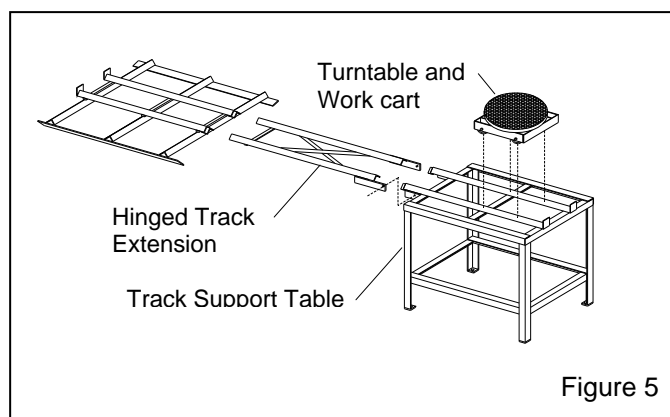

Figure 5
**3.3.1** Components of the turntable and track assembly are shown in Figure 5. The assembly consists of: